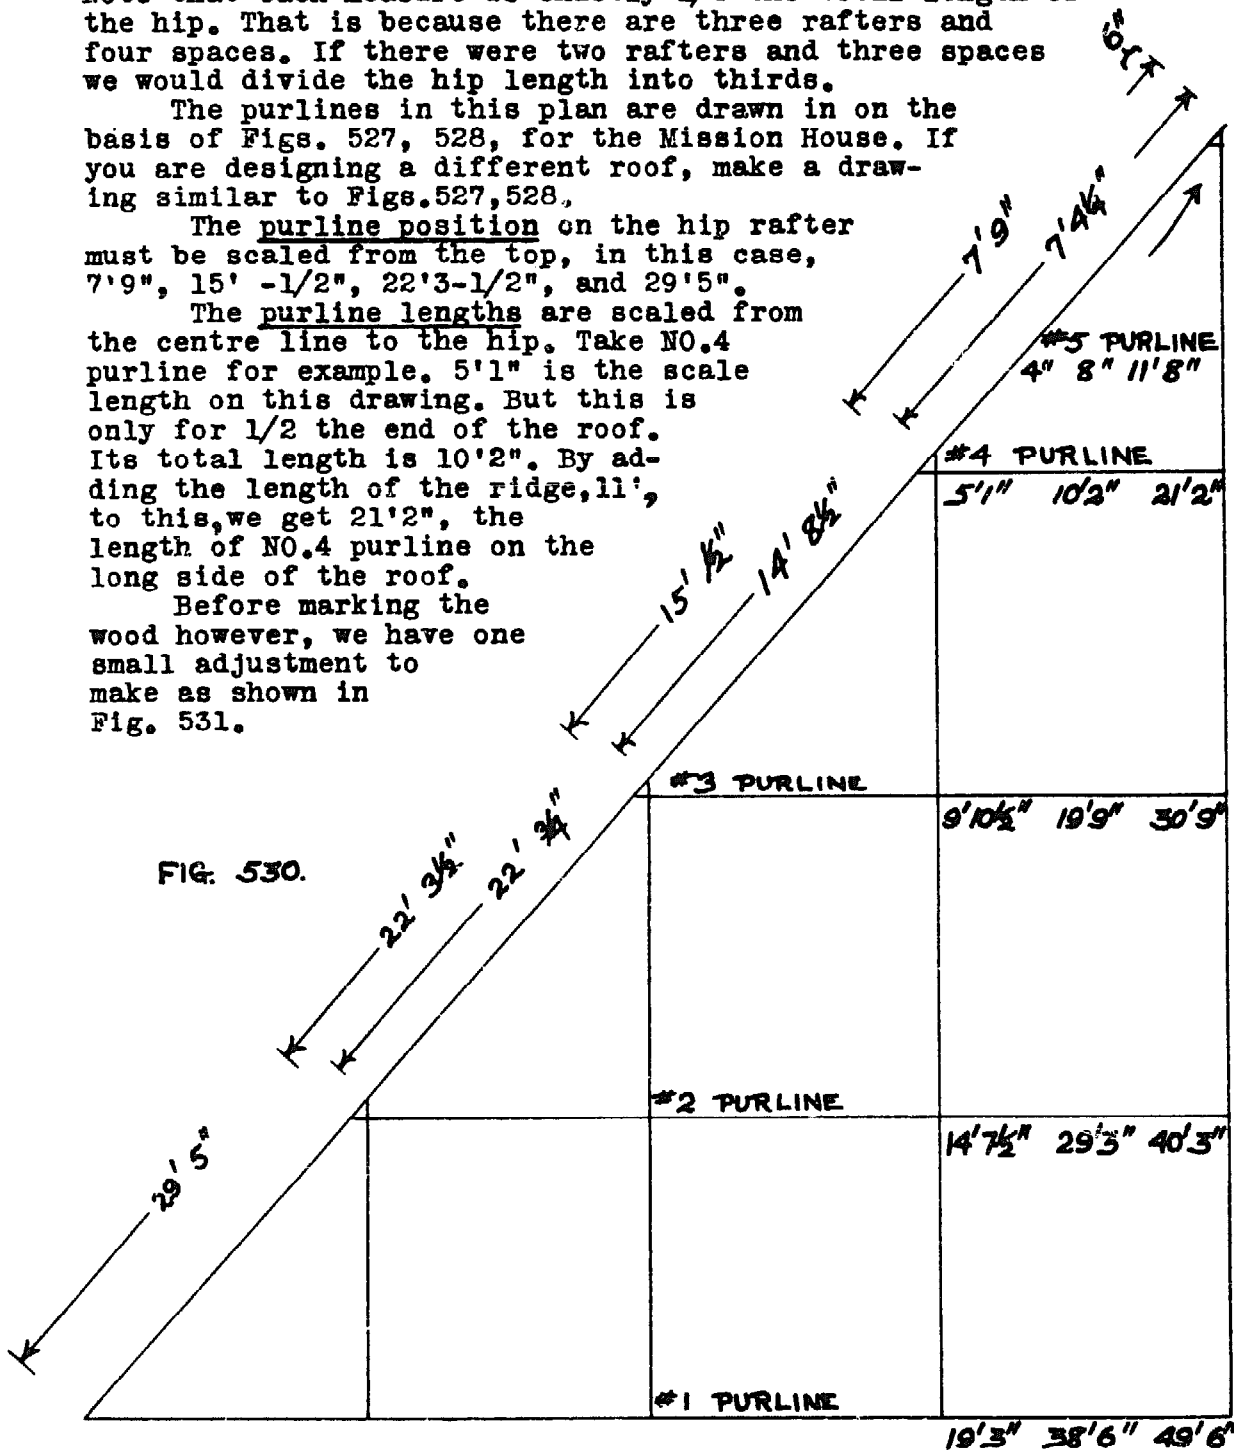

FIG. 530.
Key to Fig. 530. Marking the hip rafter for the jacks:
(3) Marking the hip rafter. The various jack rafter and purline marks are taken from Fig. 530 on page 217 or from a drawing similar to it. The following table is for the Mission House roof. All markings from the top down.